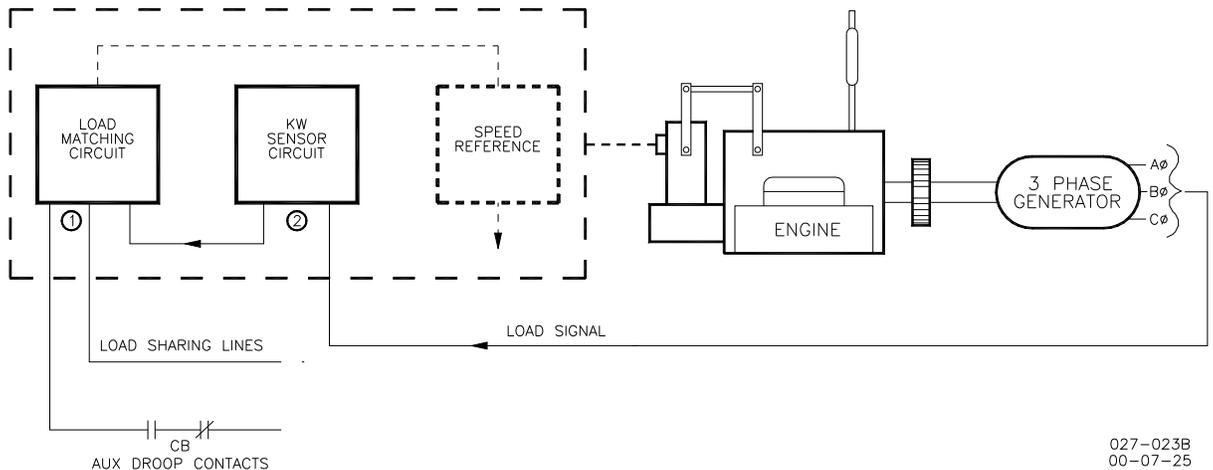

Figure 3-4. Paralleling System
There are two basic methods used for paralleling: droop, where speed decreases with load increase, and isochronous, where speed remains constant with load increase. The paralleling system shown in Figure 3-4 consists of a load matching circuit (1), and kW sensor circuitry (2).